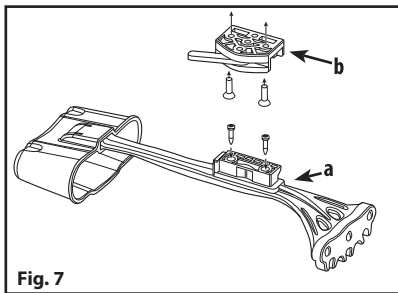

Fig. 7
1. Screw the quiver mount into the quiver with quiver screws use a screwdriver (not included) (Fig. 7)